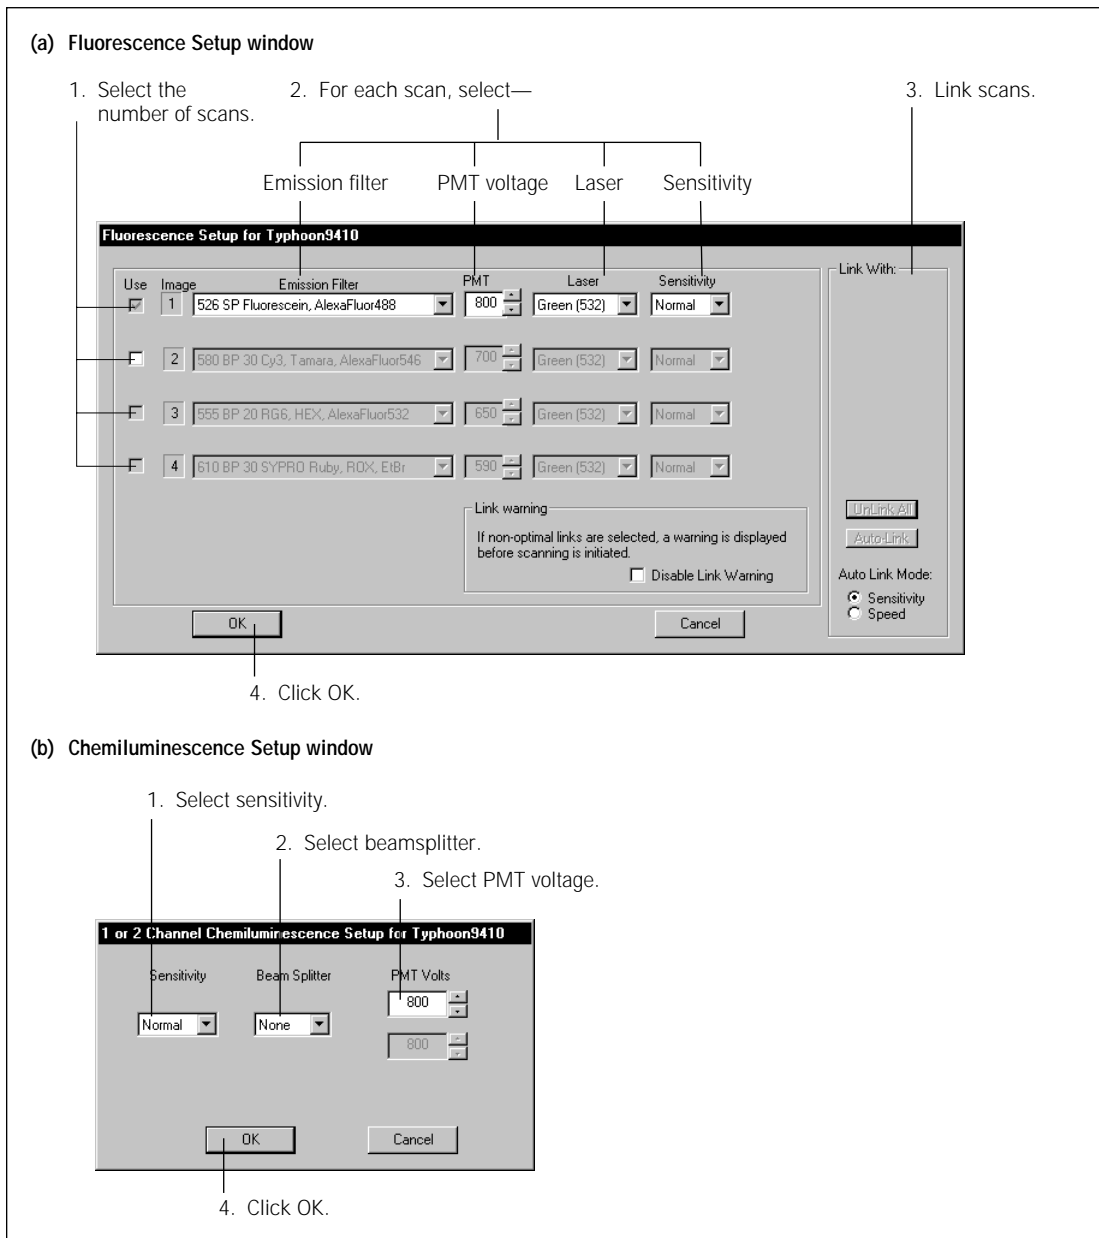

Figure 3-10. Selecting parameters in the (a) Fluorescence Setup window or (b) Chemiluminescence Setup window.
3. (Fluorescence and chemiluminescence only) Click the **Setup** button and select the parameters in the Setup window (figure 3-10). For more information on selecting parameters, see section 9.3 (fluorescence) or section 12.3 (chemiluminescence).